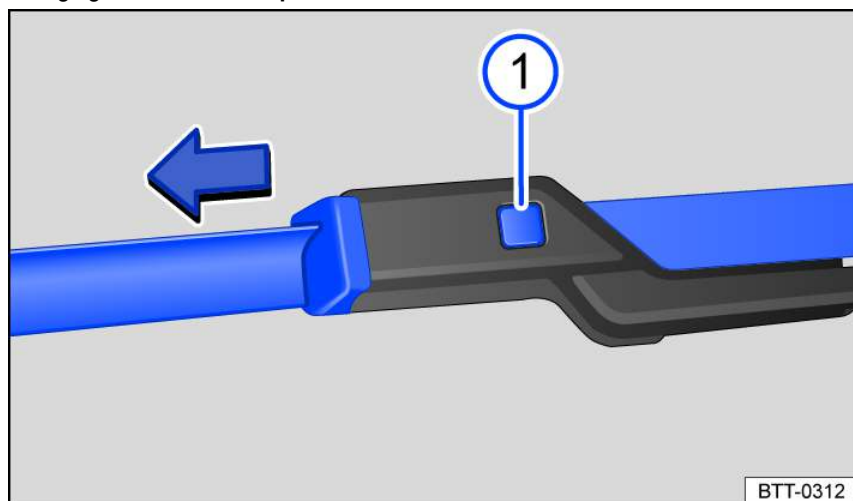

Fig. 133 Changing the windshield wiper blades.
3. Press and hold the release button and remove the wiper blade at the same time in the direction of the arrow fig. 133 .